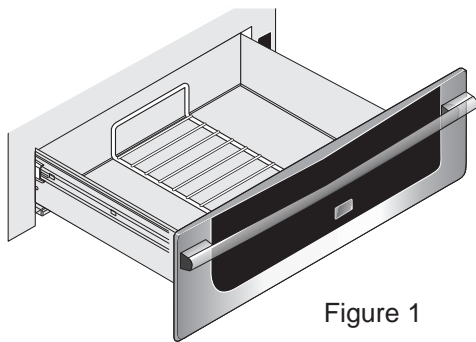

Figure 1
The unrisen bread dough should be placed in a large bowl since the dough will nearly double in volume. Place the Warmer Drawer Rack in the downward position (see Figure 1). Before placing in the Warmer Drawer, cover the bowl with a moist cloth or use wax paper that has been coated with a non-stick type cooking spray.
3. Locate glide lever on each side of drawer, pull up on the right glide lever and push down on the left glide lever (See Figure 1).